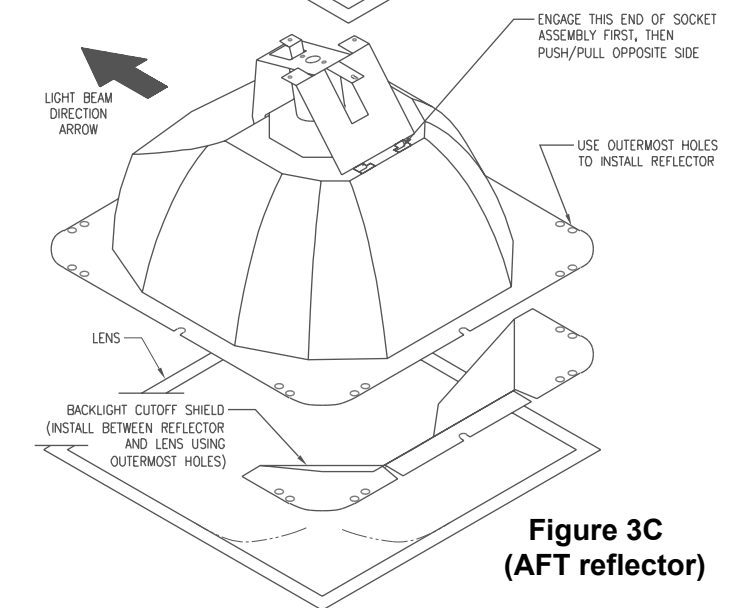

Figure 3C (AFT reflector)
18. Install new reflector using old hex nuts. Use outermost reflector flange holes on all reflectors. On AFT reflector kits only, locate backlight cutoff shield packed in *bottom of outer* reflector carton. Install as shown in Figure 3C.